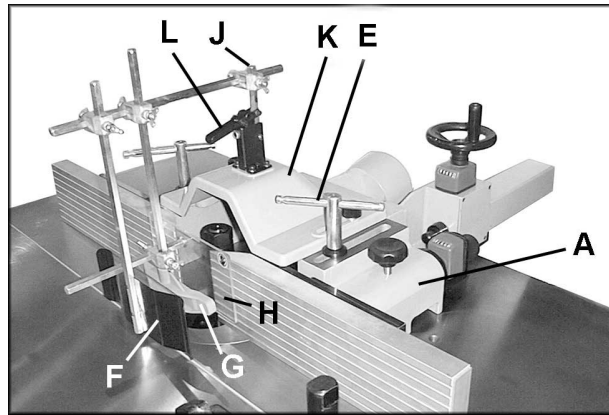

FIGURE 16
1. Place fence body (A), shown in Figure 16, on the table. Mount the two fence locking handles (E) with washers, and secure fence to table using one of the two sets of holes on the table.
3. Mount the cover plate (K) using the two locking knobs and flat washers, shown in Figure 16.
The guard assembly can be mounted in various configurations, depending upon the type of work being done. Figure 16 shows one such configuration.